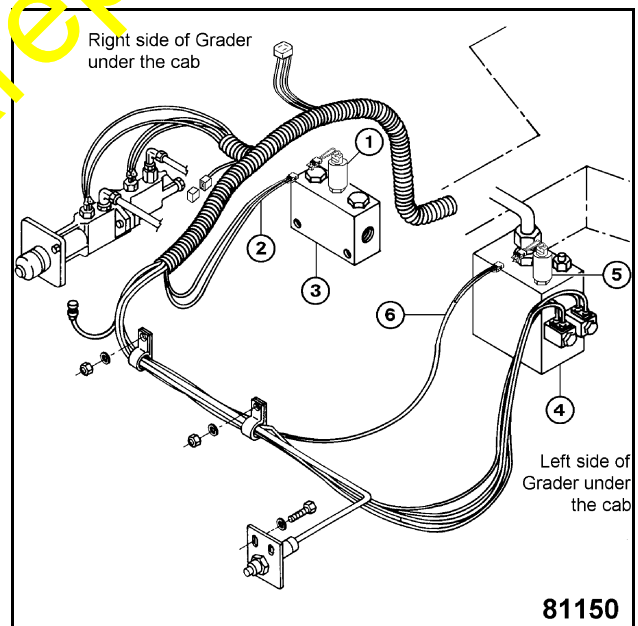

Figure 2
2. Disconnect Low Pressure Warning Switch (1, Figure 2) from the main wiring harness (2) on the brake check valve block (3). Depress brake pedal 25-50 times to discharge accumulator charge pressure.
2. Connect a calibrated 2000 - 3000 PSI (140.6 - 210.9 kg/cm²) gauge to pressure test port on bottom of junction block (4, Figure 2).
3. Disconnect High Pressure Warning Switch (5, Figure 2) from the main wiring harness (6) on the junction block (4).